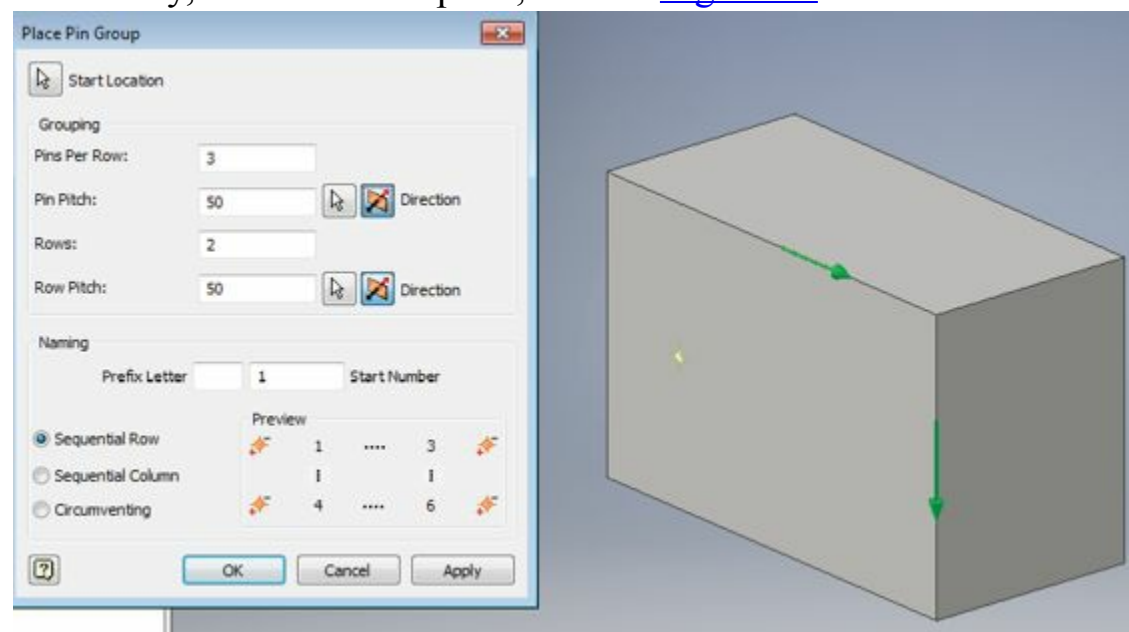

Figure-29. Directions of row pitch and pin pitch references
- Similarly, select the row pitch; refer to Figure-29.